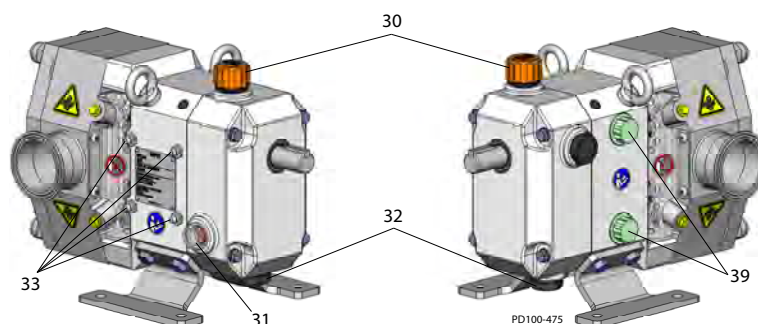

Figure 26 - Lubrication Points
Table 1: Callout table for Figure 26
CAUTION: Each pump is shipped from the factory with the gearbox sealed. Prior to operation, check the oil level and replace the uppermost oil drain plug with the supplied oil fill breather, at the location of item 30 in Figure 26.
Excess grease will accumulate in the gear case. Remove it through the cleanout hole covered with a plastic plug (Figure 26, item D on page 21).